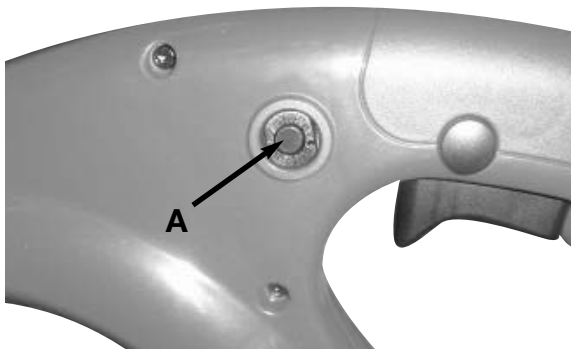

Fig. 5
2. Press the overload switch (A) to reset. Resume operation. (Fig. 5)